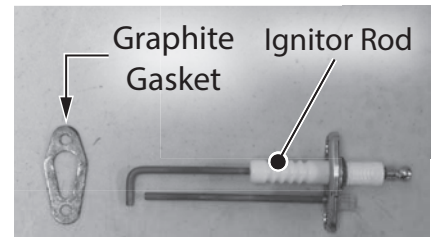

Figure 78 - Install ignitor rod and graphite gasket
- 9 Locate the new ignitor rod assembly and graphite gasket provided in the kit. Orient the graphite gasket as shown in Figure 78 and install to ignitor rod assembly.